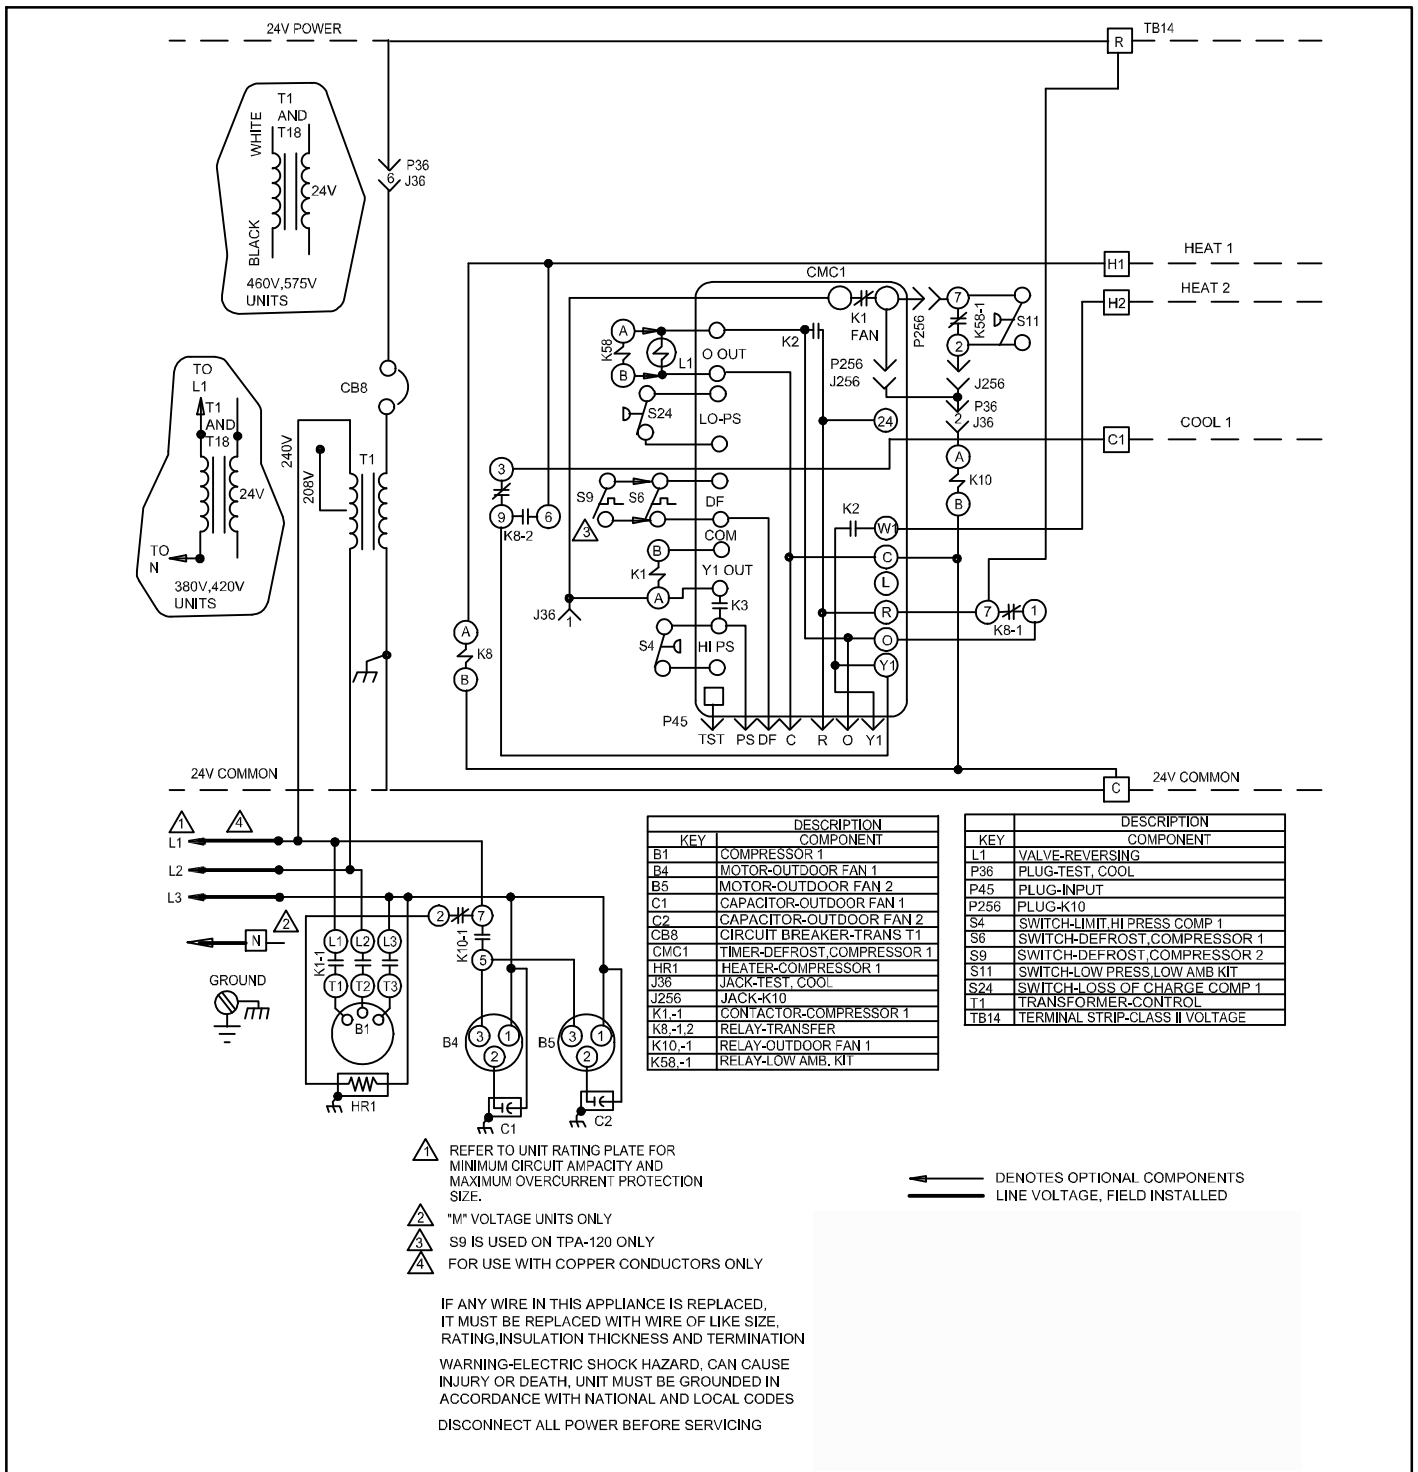

Figure 3. TPA090S4S and TPA120S4S (G, J, M, and Y Voltages) Typical Wiring Diagram
- C** Make control wire connections using field provided wire nuts. See figure 3 for connections requirements.